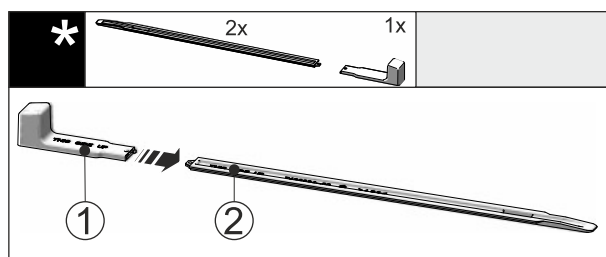

Fig. 54
- Insert the mounting handle Fig. 54 (1) into the leveling rail Fig. 54 (2).